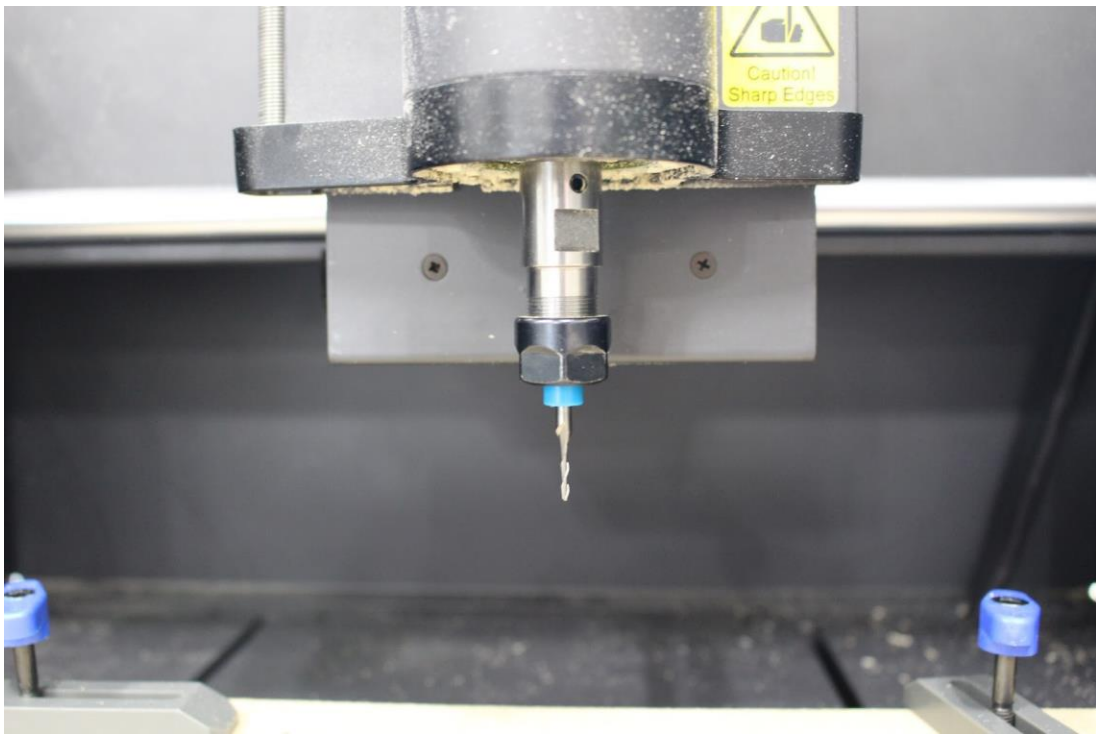

Figure 3 - Installed Bit
3. Insert the router bit until the blue collar is flush with the collet and tighten the collet by holding the wrenches as described in Step 2 and pushing your hands away from you. Check that the router bit is properly installed and snug in the collet (Figure 3). If the collet is not tight enough the router bit may slip out of the collet during the job.